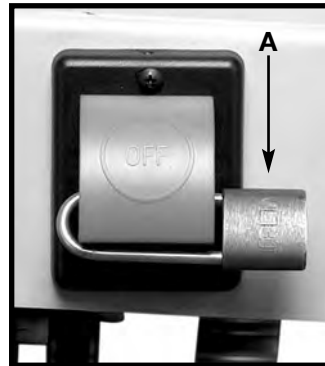

Fig. 17
IMPORTANT: When the tool is not in use, the switch should be locked in the “OFF” position to prevent unauthorized use, using a padlock (A) Fig. 17 with a 3/16" diameter shackle.